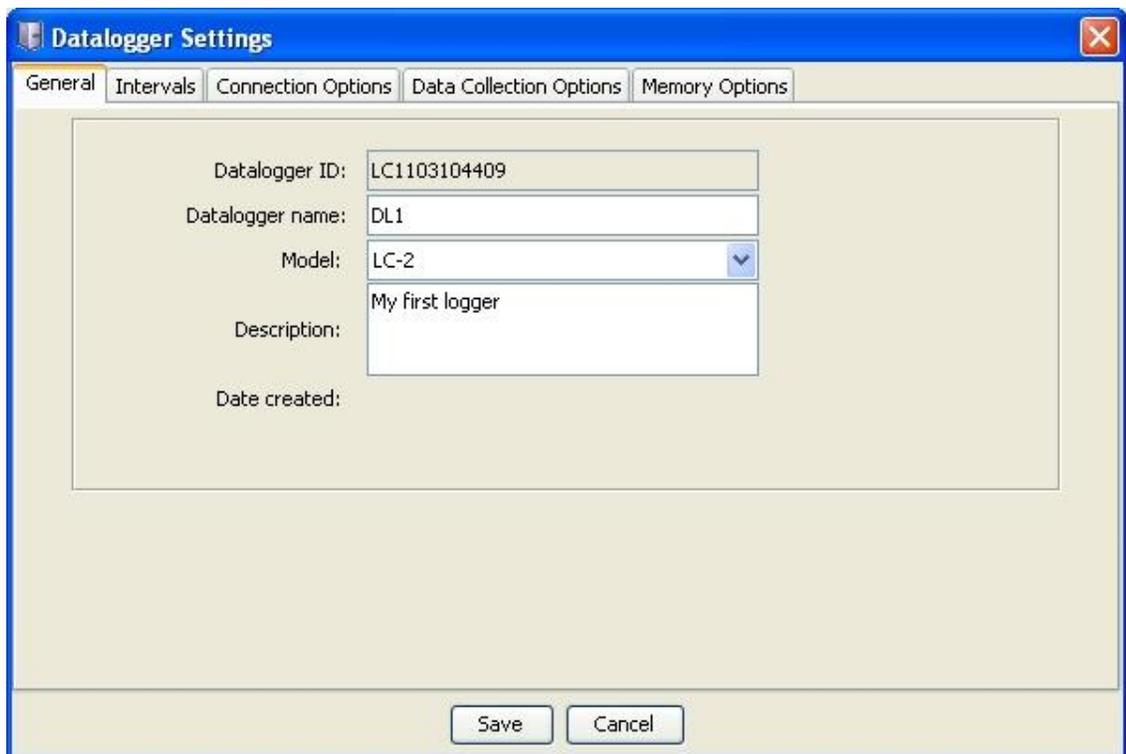

Figure 19 - Datalogger Settings
3. Select a previously created Datalogger object from the Project Explorer and click on the “Settings” button from the LogView Toolbar. Alternately, a “new” Datalogger can be created by right-clicking a “Project” in the Project Explorer and selecting “New” then “Logger” from the resulting context menu. The Datalogger Settings dialog should be displayed (see Figure 19).